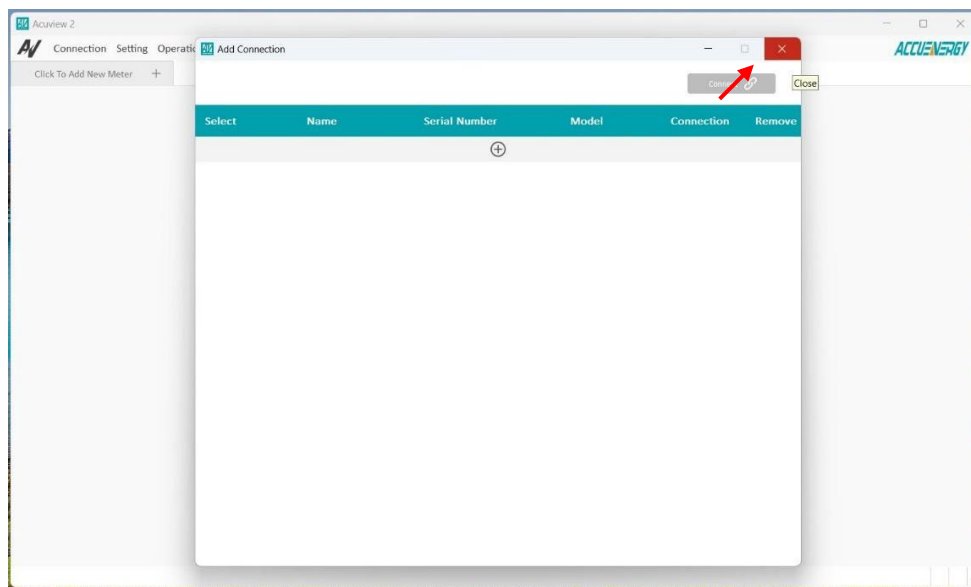

Figure 1
Step 2: The Acuvview 2 and connection interface shows, click the close label on the top left corner of the Add connection interface as shown in figure 1.